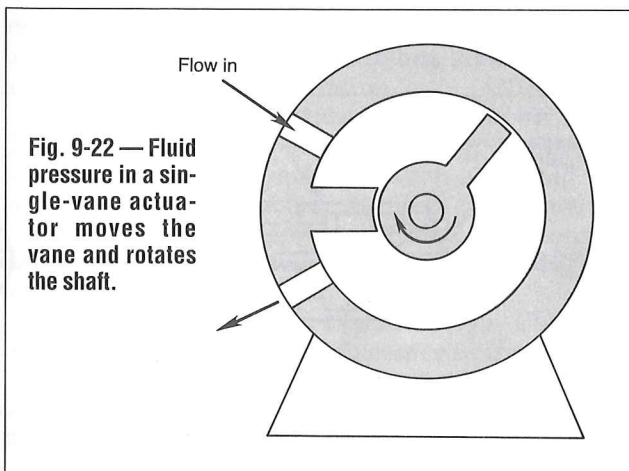

Fig. 9-22 — Fluid pressure in a single-vane actuator moves the vane and rotates the shaft.
**Vane actuators.** These units consist of a shaft mounted in a cylindrical housing, with one or more vanes attached to the shaft, Fig. 9-22. Applying fluid pressure to the vane rotates the shaft. An internal barrier between housing OD and shaft divides the interior volume into two chambers. For this reason, single-vane actuators are normally